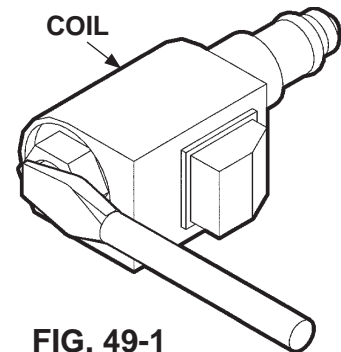

FIG. 49-1
1. Check if solenoid valves are constantly energized by touching a screwdriver to the top nut of the solenoid (**FIG. 49-1**). Try pulling the screwdriver away from the solenoid. If the solenoid nut attracts the screwdriver (magnetically) without pushing the toggle switch, the control circuit is operating incorrectly. Check if toggle switch, wiring or coil are faulty.